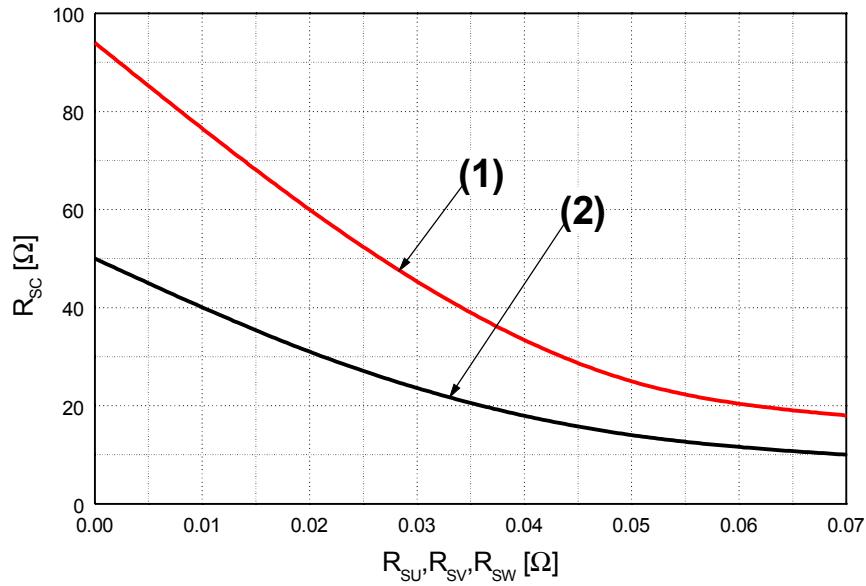

Fig. 7. R_{SC} Variation by change of Shunt Resistors (R_{SU}, R_{SV}, R_{SW}) for Short-Circuit Protection
- Short-circuit current protection is functioning only at the low-sides. It would be recommended that the value of the external sensing resistor (R_{SC}) should be selected around 50 Ω in order to make the SC trip-level of about 30A at the shunt resistors (R_{SU}, R_{SV}, R_{SW}) of 0Ω. For the detailed information about the relationship between the external sensing resistor (R_{SC}) and the shunt resistors (R_{SU}, R_{SV}, R_{SW}), please see Fig. 7.